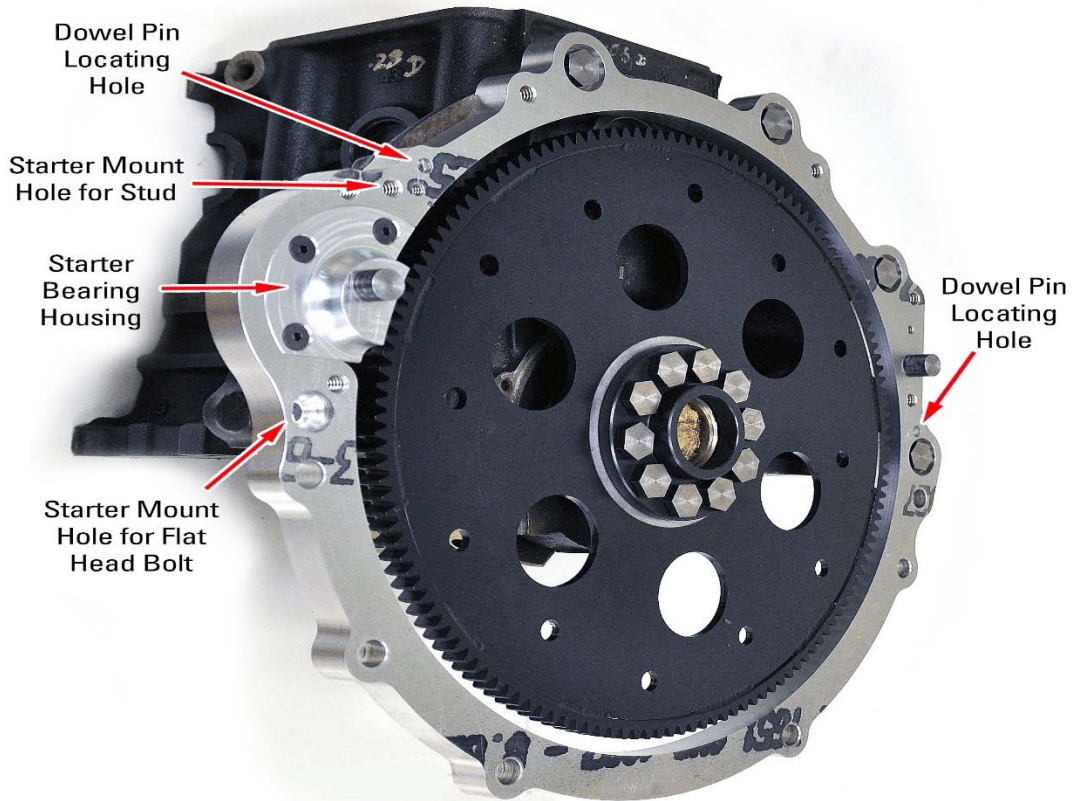

Figure 2: Installed Flexplate, Crankshaft Adapter, and Adapter Plate
Step 1: Press the two (2) locating Dowel Pins (#1) into the appropriate holes in the engine block.
Step 2: Slide the Adapter Plate (#3) over the Dowel Pins in the engine block making sure the Adapter Plate rests flush against the block. Using four (4) Adapter Plate Bolts (#2), secure the Adapter Plate in place. Figure 2 below shows the Adapter Plate properly located and installed on the engine block.
Crankshaft Adapter and the Flexplate in place using ten (10) Crankshaft Adapter Bolts (#5). A properly installed Flexplate and Crankshaft Adapter can be seen in Figure 2.
Step 4: Locate the stud from the Starter Mount Bolts (#8) and screw the shorter of the two threaded ends into the engine side of the Adapter Plate. Hold the Starter (#7) such that the solenoid points toward the top of the engine then push the Starter up into the Starter Bearing Housing (see Figure 2 above) making sure the mounting hole clears the stud. Secure the Starter in place using a nut and washer on the stud and a flathead bolt on the opposite side. See Figures 2 and 3 for reference.